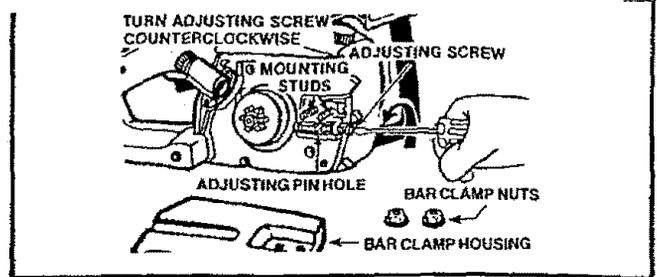

Figure 8
2. Turn the Adjusting Screw counterclockwise to position the Adjusting Pin nearly as far as it will go to the rear. Figure 8.